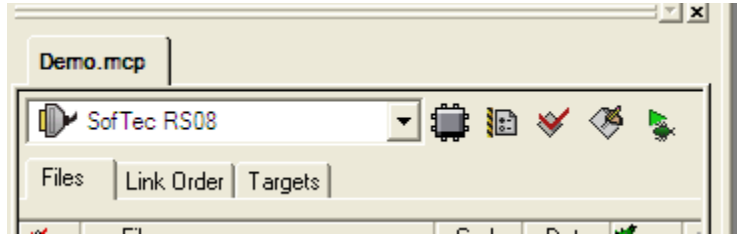

Figure 7. CodeWarrior Menu
3. Click on the green arrow with the bug, it enters debug mode. This downloads the program. See Figure 7.